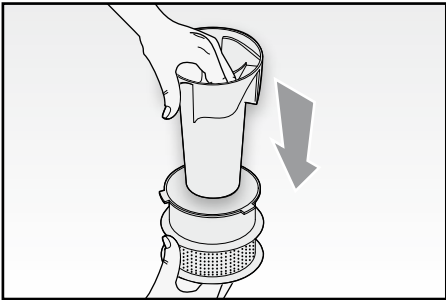

Fig. 9
- separate the filter into its two sections, sliding them apart (Fig. 9).